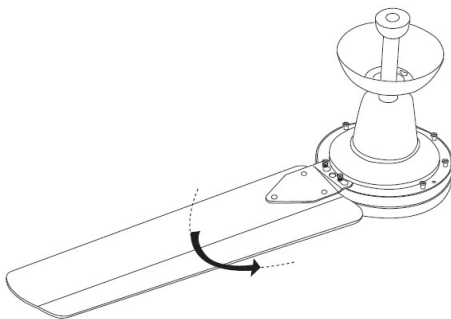

Fig. 3
2. Turn the blade slightly anti clockwise to secure the blade as shown in Fig. 3